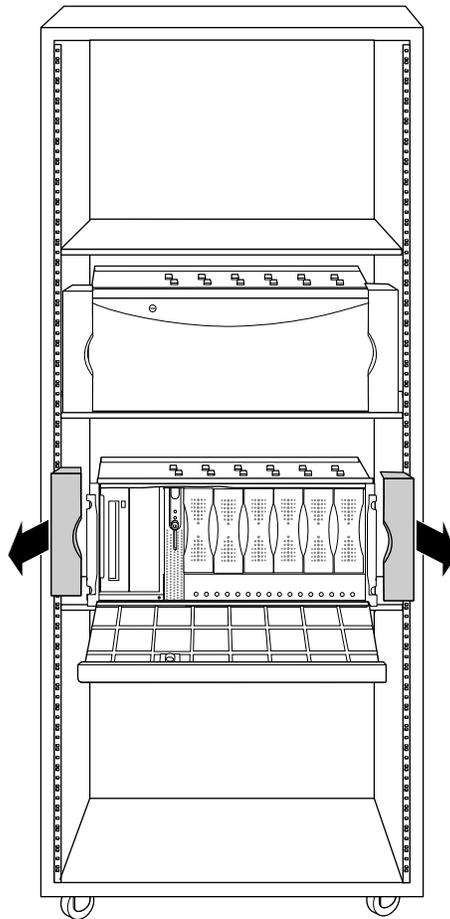

Figure 1-2 Removing the Plastic End Caps
2. Remove the plastic end caps, as shown in Figure 1-2.